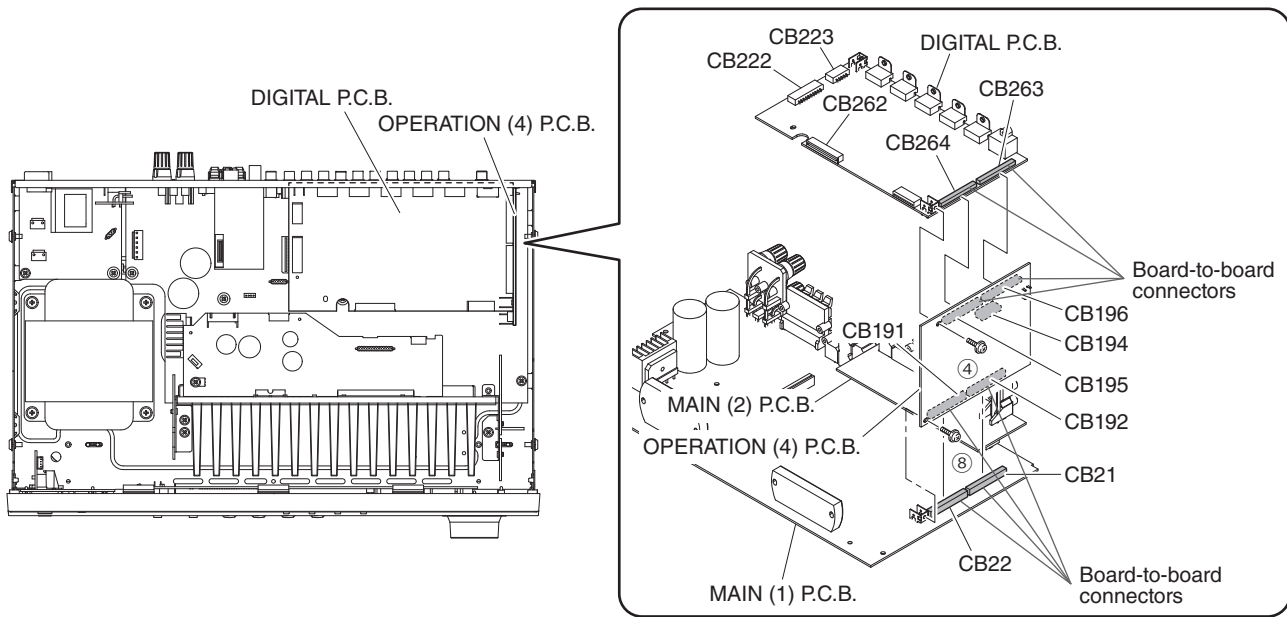

Fig. 2
- Remove CB222 and CB223, unlock and remove CB262. (Fig. 2)
- Remove screw (4). (Fig. 2)
- Remove the DIGITAL P.C.B. which is connected directly to the OPERATION (4) P.C.B. with board-to-board connectors. (Fig. 2)
4. Removal of OPERATION (4) P.C.B.
- Remove CB194. (Fig. 2)
- Remove the OPERATION (4) P.C.B. which is connected directly to the MAIN (1) P.C.B. with board-to-board connectors. (Fig. 2)